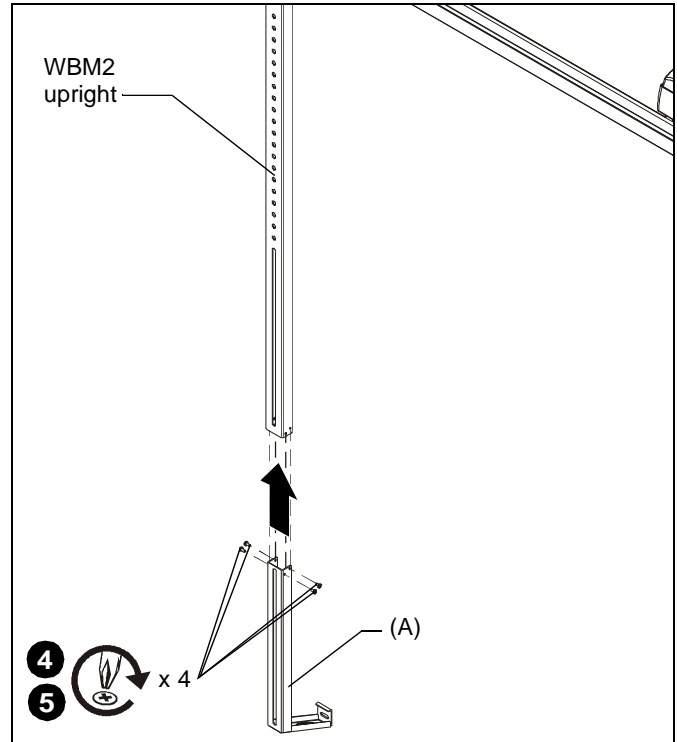

Figure 2
4. Attach fixed wall leg (A) to bottom of WBM2 upright using the four Phillips screws removed in Step 1. (See Figure 2)